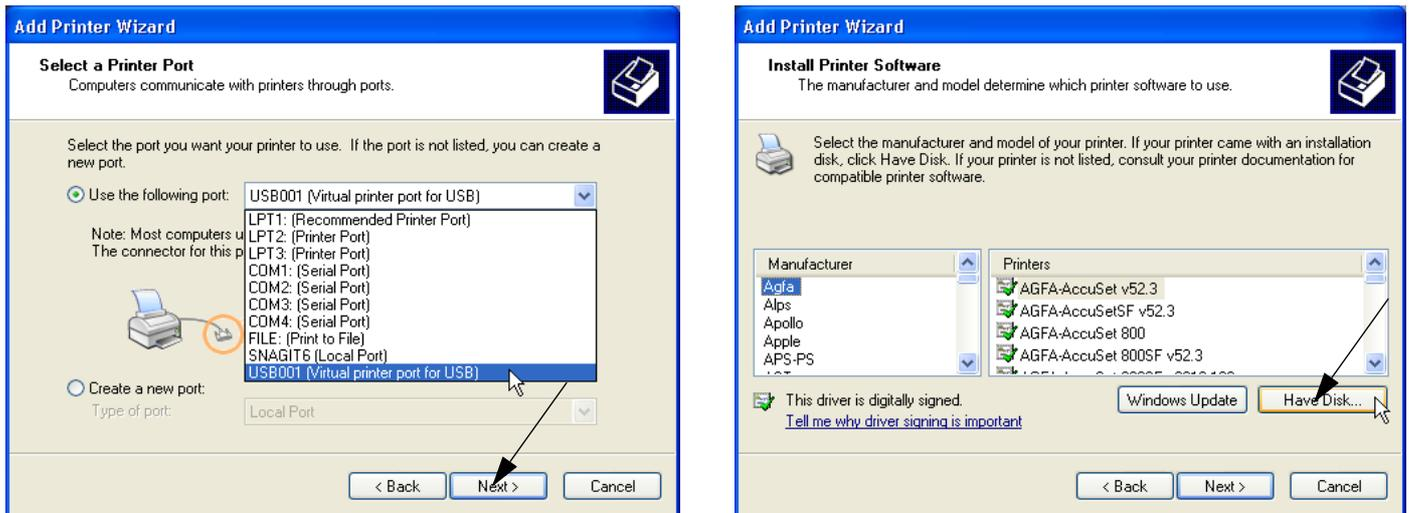

Figure 3-109 Select Printer Port / Have Disk...
8.) Select the corresponding Printer Port (e.g., Figure 3-109 = USB001) and click NEXT.